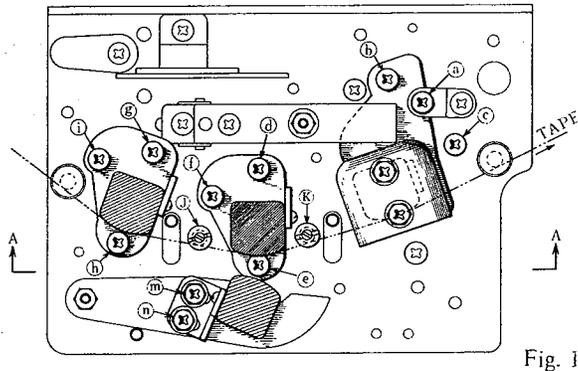

Fig. 1
Use a Pre-recorded tape (16 KHz, 7-1/2 ips), and connect a highly sensitivity V.T.V.M. to the line output jack. Adjust Screw (C) (Figure 1) so that line output voltage is maximum.